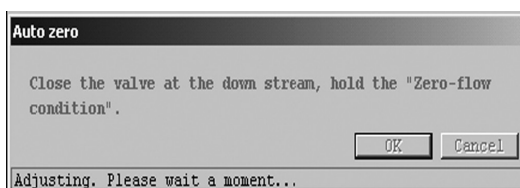

Fig.71
- ④ It takes about 30 seconds to complete the process of zeroing. While zeroing is in progress, a message box as shown in Fig. 71 appears.